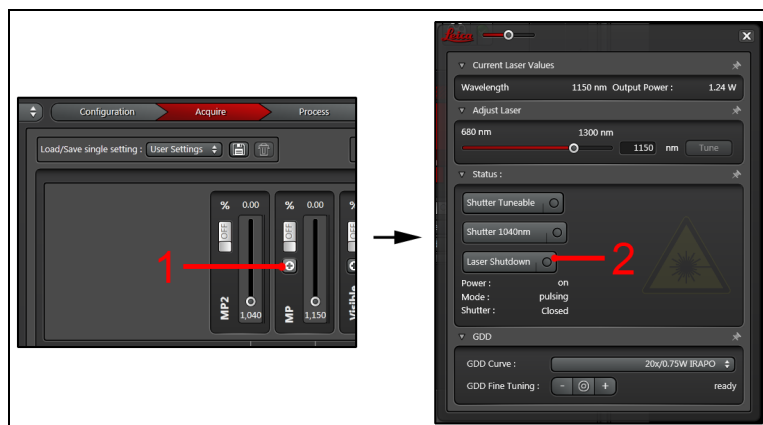
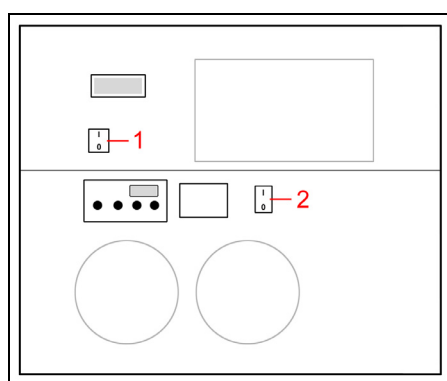

Figure 104: Laser shutdown button for switching off the "InSight DeepSee laser"
Figure 105: Cooling and supply unit for the "InSight DeepSee" infrared laser
If you have no need for the "InSight DeepSee" infrared laser for a longer period of time, you can shut it off completely. To shut the "InSight DeepSee" off completely, call up the MP dialog (see **Figure 104, item 1**) and then click on the button **Laser shutdown** (**Figure 104, item 2**). In this case you have to deactivate the supply unit for the infrared laser (**Figure 105, item 1**) as well. After 15 minutes, you can also switch off the cooling for the infrared laser (**Figure 105, item 2**).